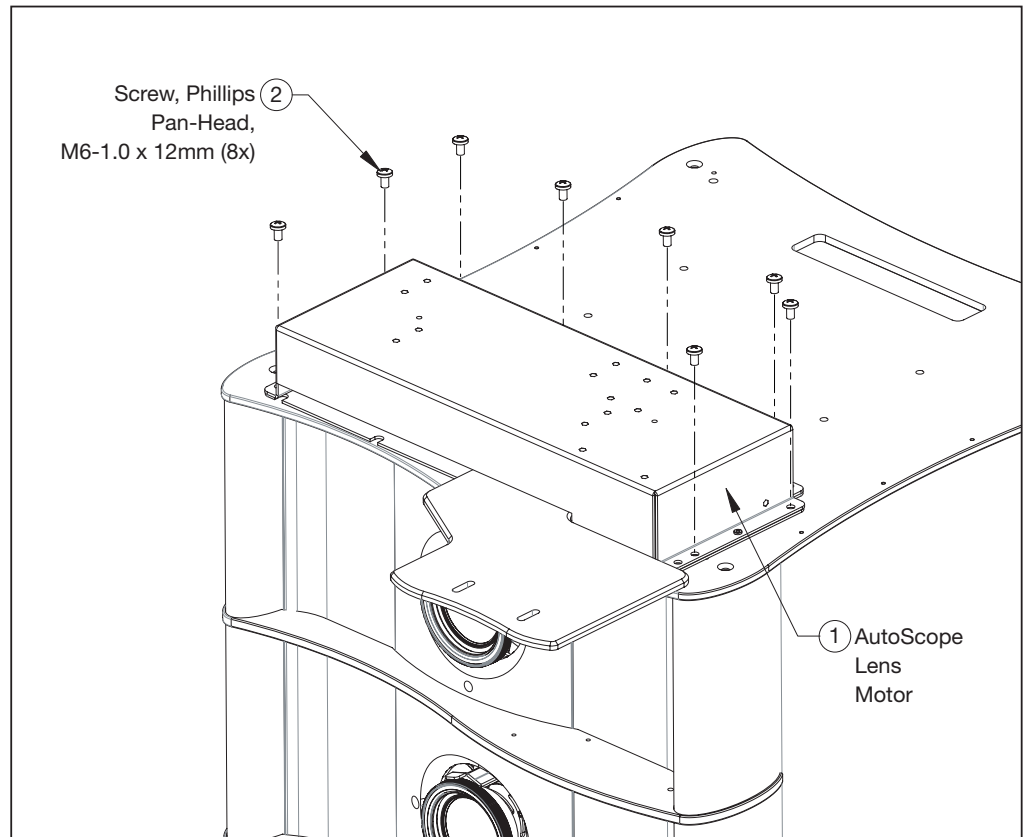

Figure 3-7. AutoScope Lens Motor Installation
1. Position the AutoScope lens motor as shown in Figure 3-7.
3. Secure the motor to the projector with the eight (8) supplied M6 x 12mm Pan-Head Phillips screws.